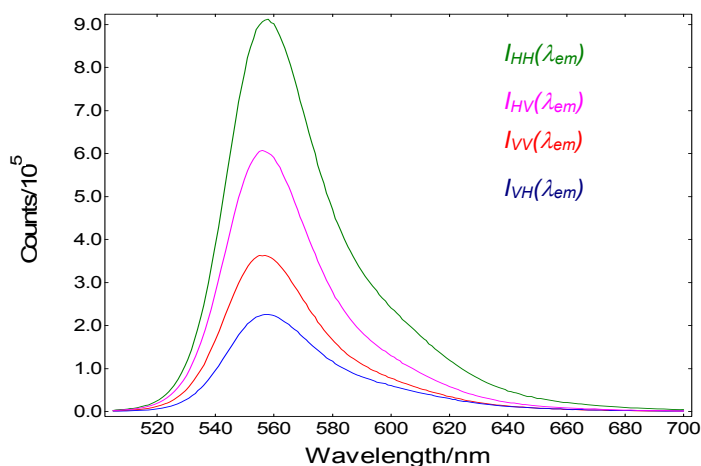

Figure 4-12: Raw polarised fluorescence emission scans of rhodamin 6G in glycerol
4. The Anisotropy tab contains options for the G-factor corrections. On the top left of this dialogue tap you decide whether to measure a complete emission anisotropy scan (i.e. an anisotropy scan with G-factor correction) or to measure the G-factor curve only. Typically the (complete) **Anisotropy Curve** option will be selected and with this two options for the G-factor are given: If the first of the two G-factor options was selected (**Also measuring G-factor Curve (HH/HV)**) the full measurement will finally contain all four polarised curves, i.e.  $I_{VV}(\lambda)$ ,  $I_{VH}(\lambda)$ ,  $I_{HV}(\lambda)$  and  $I_{HH}(\lambda)$ . If the second of the two G-factor options was selected only  $I_{VV}(\lambda)$  and  $I_{VH}(\lambda)$  will be measured and a previously measured G-factor curve can be loaded before the anisotropy calculation is performed. A typical example for the set of polarised fluorescence emission scans is given in Figure 4-12.